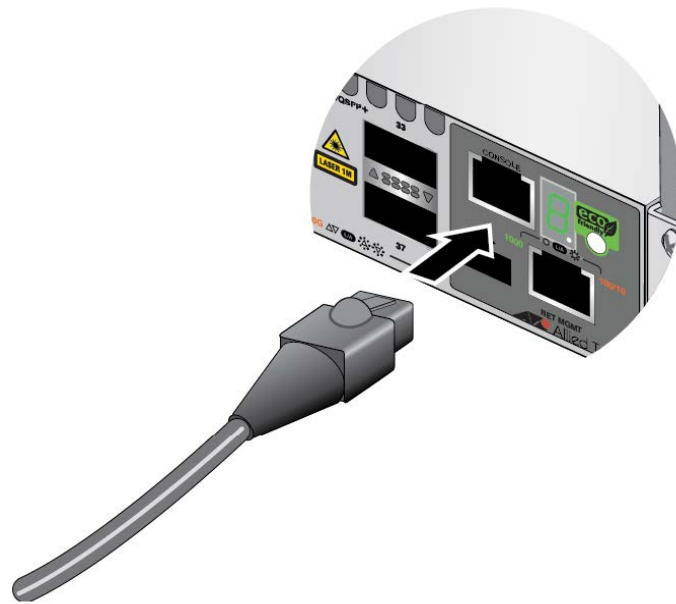

Figure 128. Connecting the Management Cable to the Console RS-232 Port
1. Connect the RJ-45 end of the management card included with the switch to the Console RS-232 port on the management panel. Refer to Figure 128.